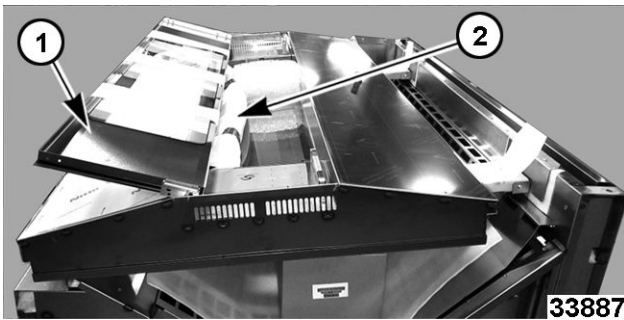

Fig. 45
1. With door still on the dolly(ies), open outer door glass (1, Fig. 45) to access and remove door handle (2, Fig. 45).